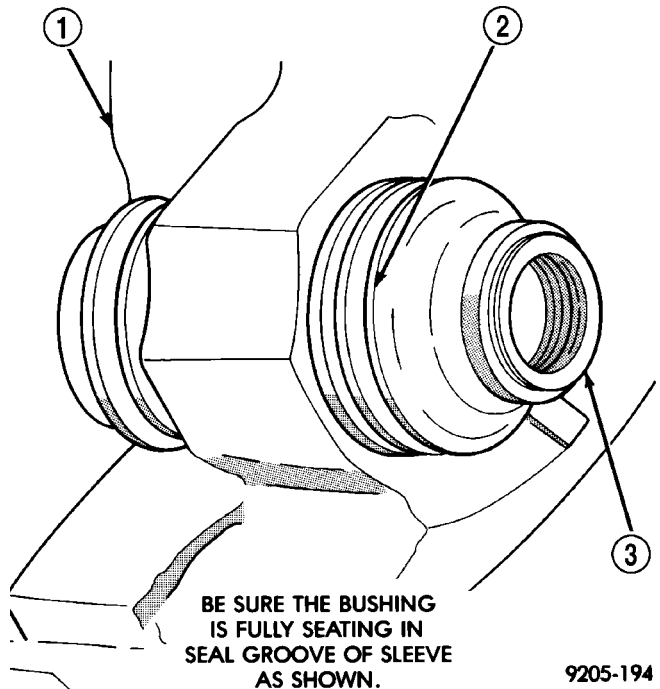

Fig. 53 Correctly Installed Guide Pin Sleeve And Bushing
(7) Verify both ends of the bushing are seated in the sleeve grooves (Fig. 53). When the sleeve is seated properly into the bushing, the sleeve/bushing can be held between your fingers and easily slid back and forth without the bushing unseating from the sleeve groove.